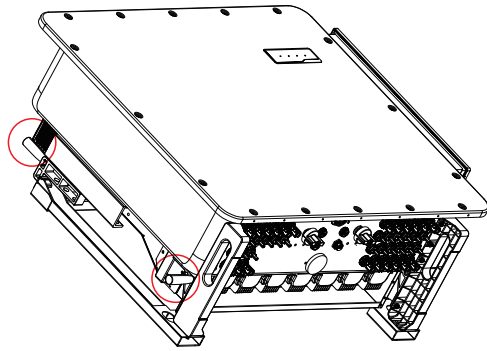

Figure 3.5 Inverter handles
2. Two people are required to remove the inverter from the shipping box. Use the handles integrated into the heat sink to remove the inverter from the carton (see Figure 3.5).